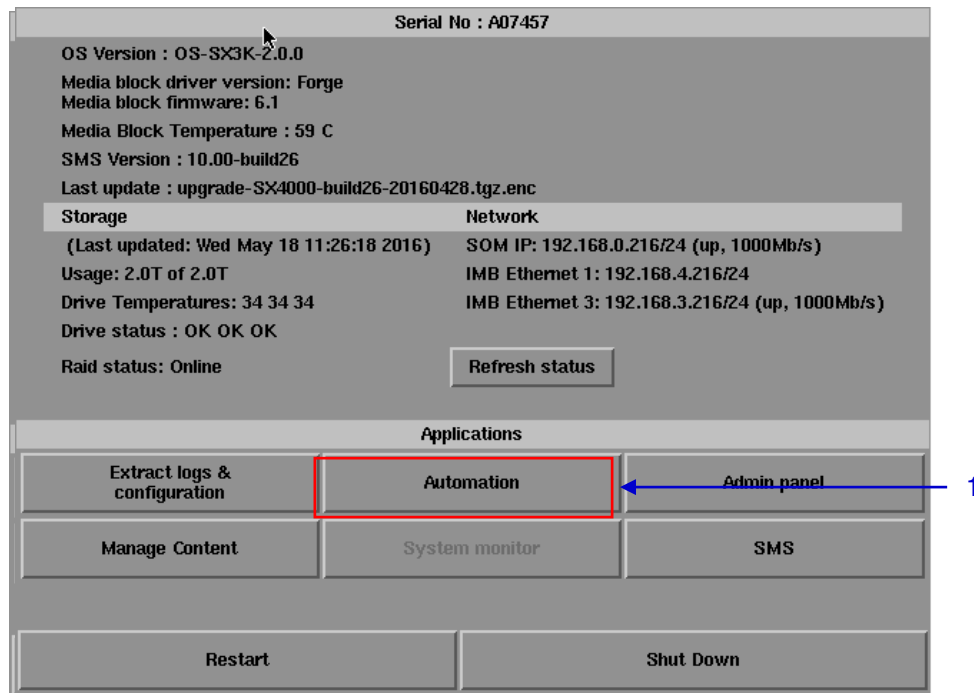

Figure 54 Accessing Automation.
- 1 Automation labels and projector commands can now be executed from an interface on the Control Panel. Press **Automation** on the **Control Panel** to start the manual automation interface as shown in **Figure 54**.